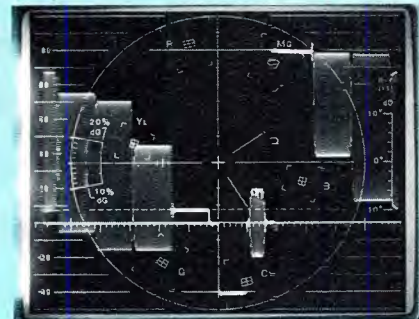

Figure 12. Simultaneous "WFM" and "SCH" selection will display the H interval at the center of the one line sweep.
- "WFM" and "SCH" display the horizontal interval in the center of the screen (Figure 12).